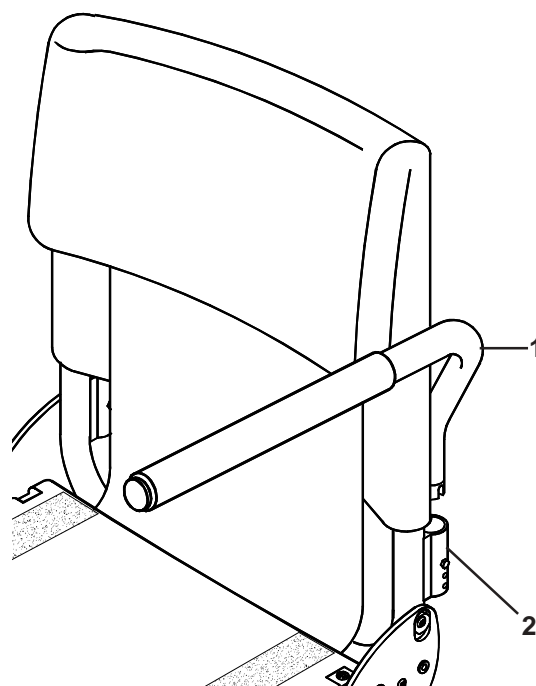

Fig. 17
Fig. 17 shows the swing-away armrest. To fit swing-away armrests simply drop the armrest (1) into the receiver (2).